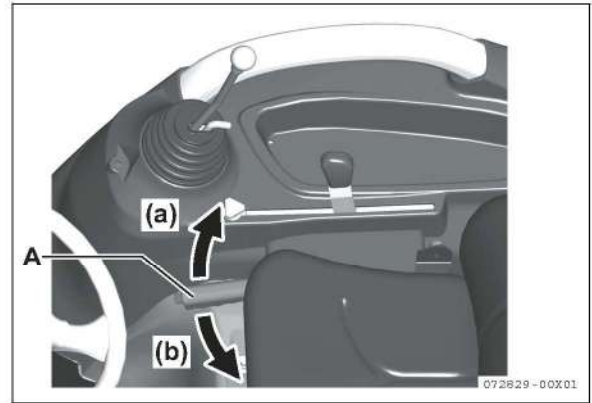

Fig 5-21
### (4) Parking brake lever (Fig 5-21)